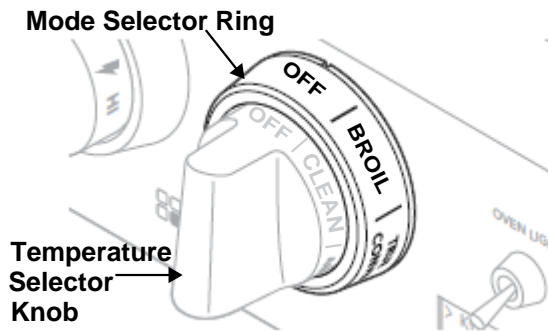

Figure 31: Mode Selector Ring & Temperature Knob
2. Turn the Temperature Selector Knob (see Figure 31 on Page 27) to desired selection.
2. Set Mode Selector Ring (Figure 31) to Bake or Convection Bake, or Roast.